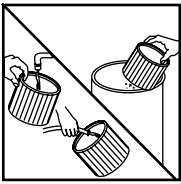

FIGURE 26, 27
37. To clean the cartridge filter shake or brush off excess dirt or rinse (from the inside of the filter) with water, dry completely (approximately 24 hours) and re-install. **FIGURE 26, 27.** Note: If the filter has been used for wet pick up, it must be cleaned and dried before using for dry pick up.